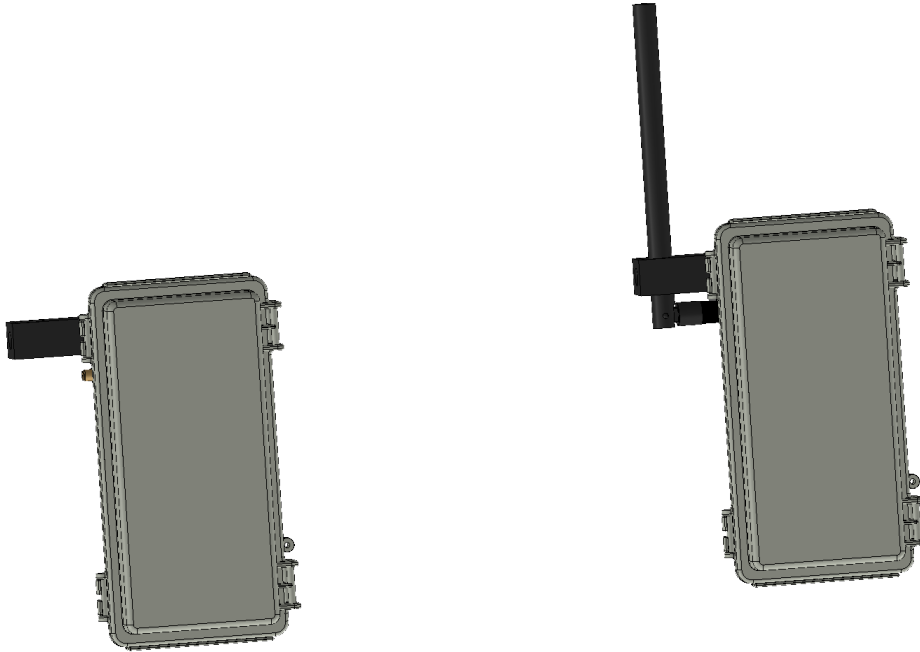

Figure 20: Antenna Placement
- Option 3: Connect the antenna directly to the unit (Figure 20).